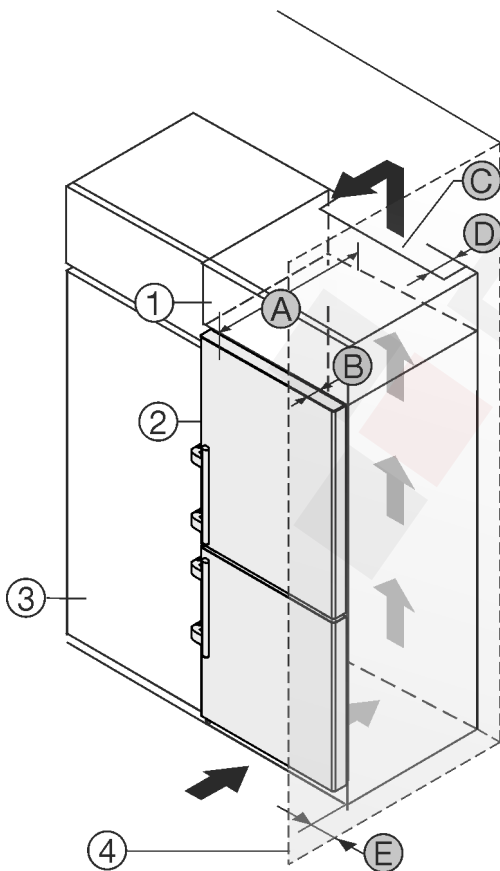

Fig. 50
The appliance can be built into kitchen units. A top cupboard Fig. 50 (2) can be added above the appliance in order to bring the appliance Fig. 50 (1) up to the height of the fitted kitchen units.
The appliance can be installed right next to the kitchen cabinet Fig. 50 (3). The appliance must protrude by depth Fig. 50 (B) from the front of the cabinet so that the doors can be opened fully. The appliance may protrude further depending on the depth of the kitchen cabinets and whether wall spacers are used.
- At the back of the top cabinet, there must be an air outlet shaft with depth Fig. 50 (D), spanning the entire width.
- The ventilation shaft Fig. 50 (C) must be observed under the ceiling.
If the appliance is installed with the hinges next to a wall Fig. 50 (4), the distance Fig. 50 (E) between the appliance and the wall must be observed. This is how far the handle protrudes when the door is open.